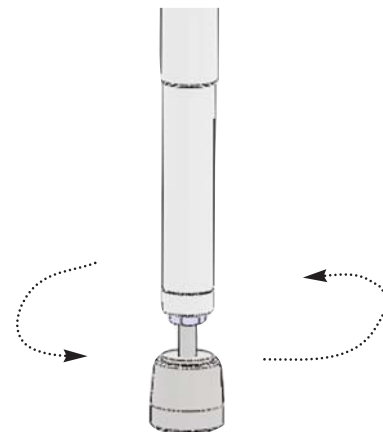

Figure 18
**D Leveling:** The commode and tub sections must both be level and equal in height. To further adjust the height on the tub section legs, rotate the crutch tip feet clockwise or counterclockwise (Refer to Figure 18).